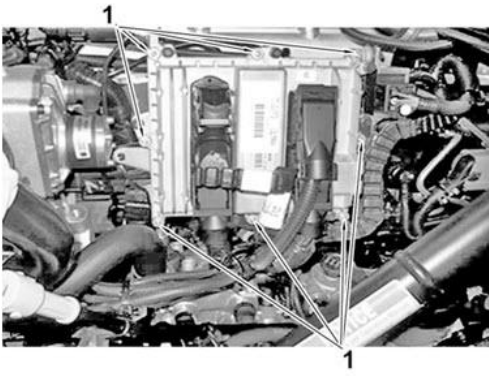

**Figure 3 - ECM Tie Straps**
- Cut one tie strap securing harness to lower front bolt and cut two tie straps securing harness to ECM bracket (Figure 3, Items 1 and 2).